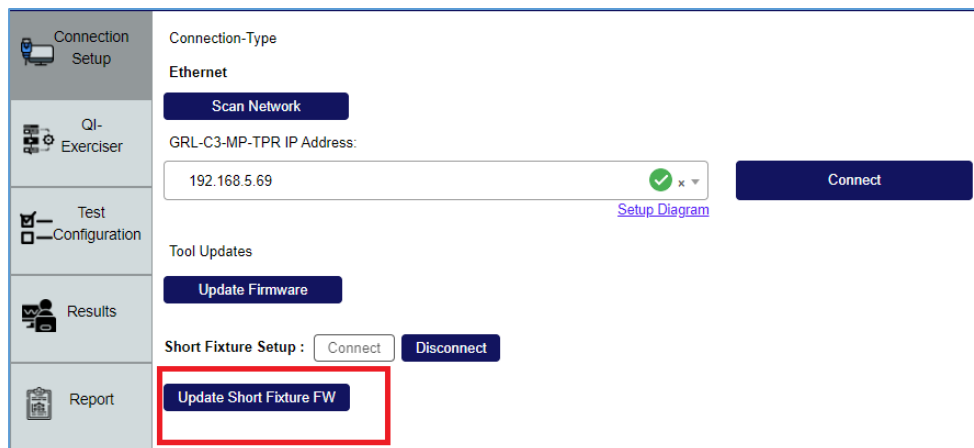

FIGURE 3.1: UPDATE GRL-C3-MPP-EXT FIRMWARE- #1
1. Click on the **Update Short Fixture FW** button as indicated in Figure 3.1.